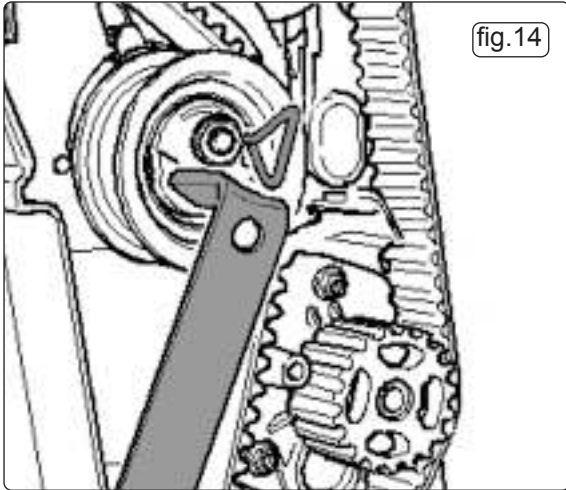

fig.14
- 5.8.2. The tensioner nut is slacked and either VSE5951-04 or VSE5951-05 Adjuster (whichever suits the application best), is used to turn the tensioner **anticlockwise** until VSE5951-08 Locking Pin can be inserted (fig.14). The tensioner is then turned **clockwise** to the stop and the tensioner nut tightened. The old timing belt can now be removed and the camshaft sprocket(s) turned **clockwise** in the elongated holes in the sprocket(s).